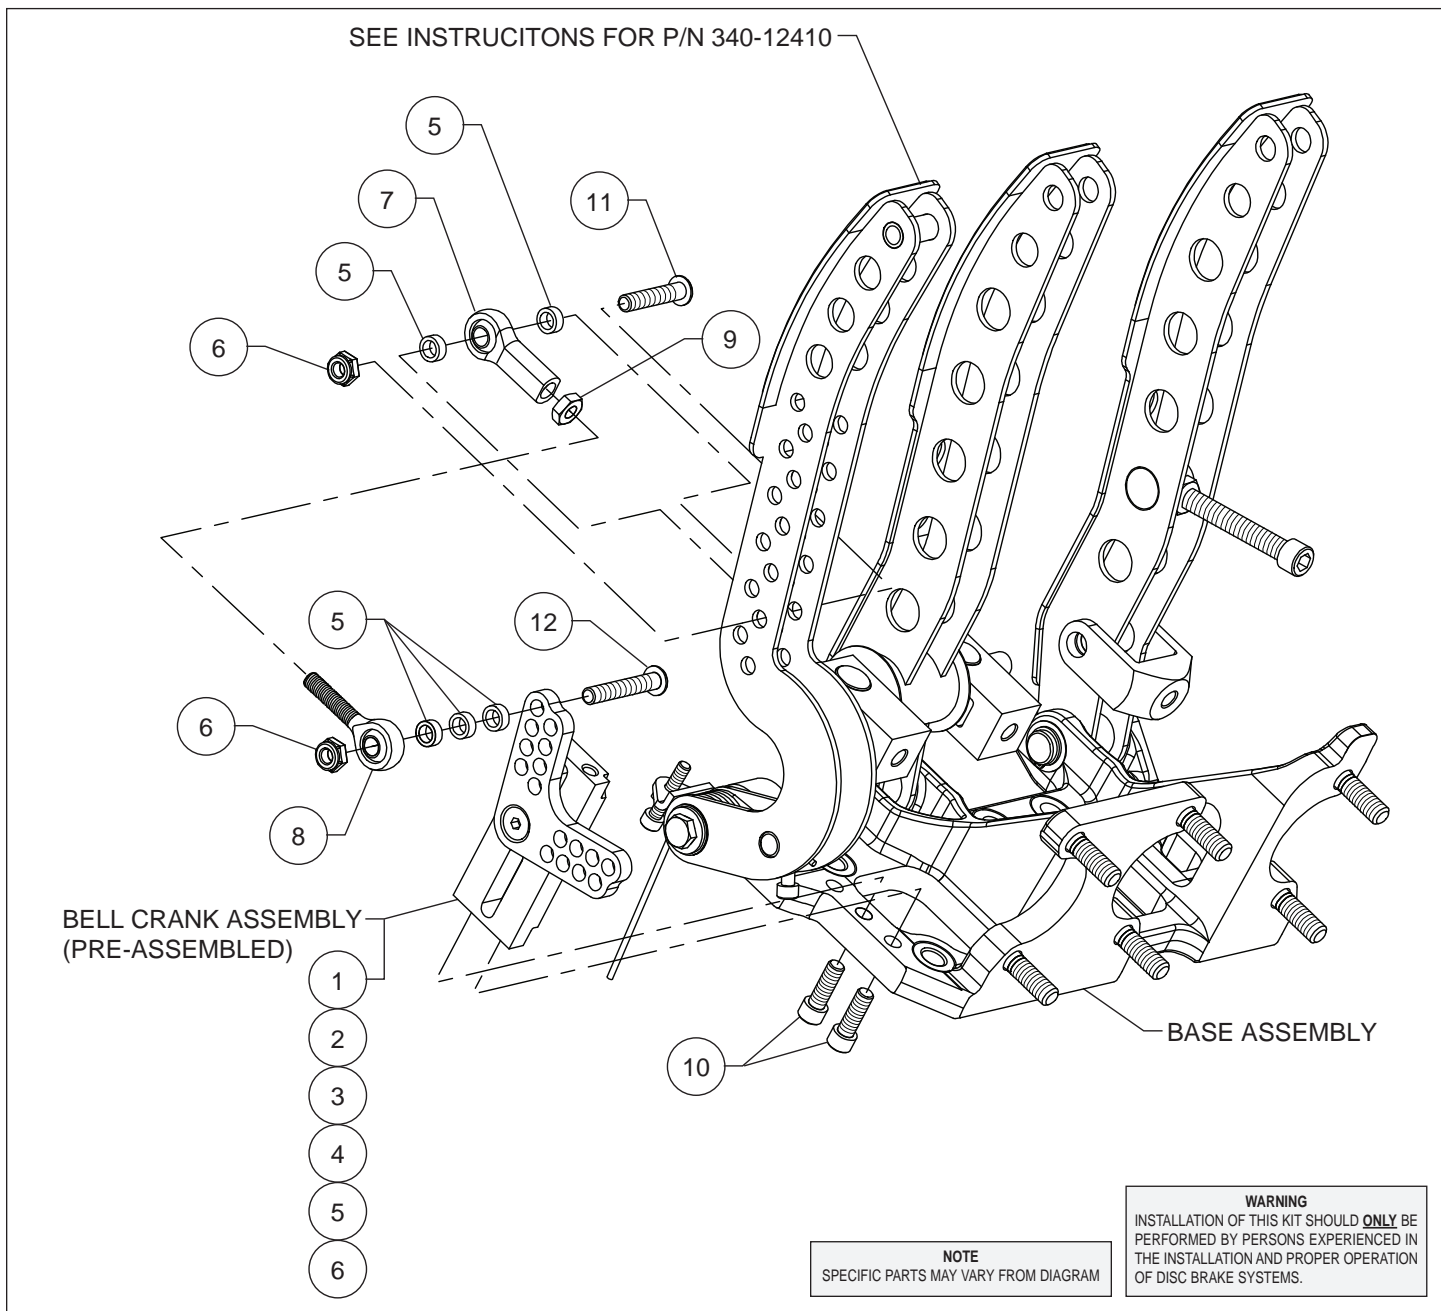

Figure 2. Typical Installation Configuration, For Front Engine Cars, Part Number 340-12411
Assembly Instructions • Part Number 340-12411 (numbers in parenthesis refer to the parts list and Figure 2 on page 4):
- Orient the bell crank assembly as shown in Figure 2 and attach to the pedal base using bolts (10). Apply red *Loctite*[®] 271 to the threads and torque to 140 in-lb.
- Assemble the connecting rod. Screw nut (9) onto male bearing end (8) and then screw the female bearing end (7) onto the male end, Figure 2. Do not tighten nut at this time.
- Install female bearing end (7) of the connecting rod into throttle pedal using bolt (11), two spacers (5), and nut (6), as shown in Figure 2.
- Attach the male bearing rod end (8) to the bell crank assembly using bolt (12), three spacers (5), and nut (6) as shown in Figure 2. **NOTE:** The bell crank assembly can be set up for a variety of throttle ratios. Final adjustment of the bell crank and connecting rod to be performed after pedal installation in vehicle.